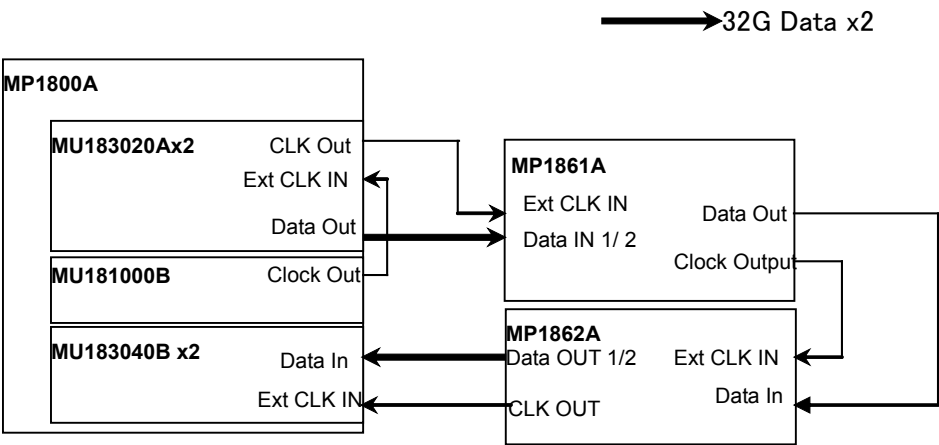

Figure 6.3.1-1 Module Connection
Figure 6.3.1-1 shows the connection example using MP1861A, MU183020A (MU183020A-x01, x22/x23, x30), MP1862A, MU183040A/B (MU183040A/B-x01, x20), and MU181000A/B. Before connecting the devices, be sure to use a sampling oscilloscope to check if the frequency and level of the signals output from the MP1862A is proper.
1. Connect each measuring instrument using cables as shown in Figure 6.3.1-1.
Refer to Figs. 6.3.1-1 for the connections.
See Figure 6.3.1-1 for the device connection.